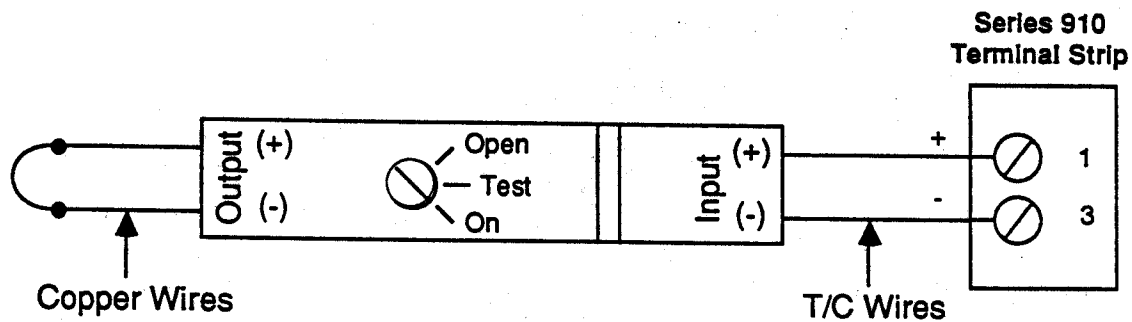

Figure 28 -
2. Connect the input side of thermocouple reference compensator to #1 Positive and #3 Negative. Short the output side of the compensator. Turn the compensator on. See Figure 28.